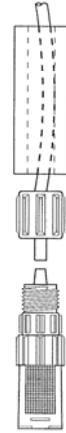

Figure 5: Ceramic-Weighted Strainer
- 5) Referring to Figure 5 slide ceramic strainer weight on suction tubing first then remove the coupling nut from the strainer and slide onto tubing next. Push the end of the tubing onto the strainer and hand tighten the coupling nut. Hand-tighten only, do not use wrenches. Note: Immerse tubing in hot water to soften prior to pushing on fitting.